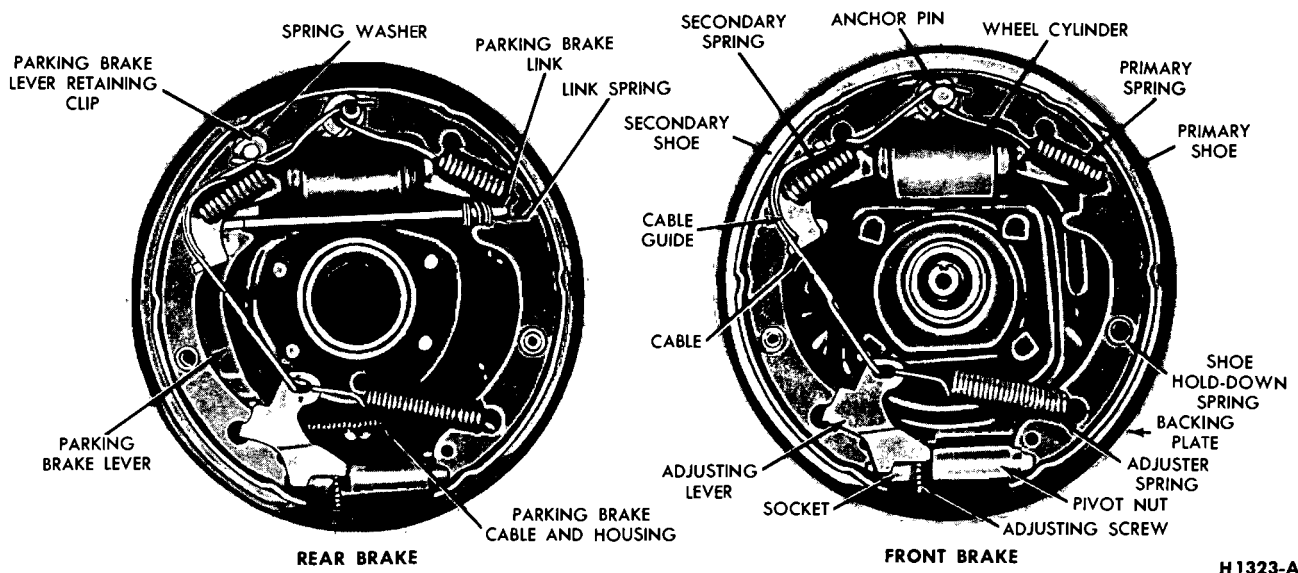

FIG. 9—Self-Adjusting Brake Assemblies—9 Inch Drum
The self-adjusting brake mechanism consists of a cable, cable guide, adjusting lever, and adjuster spring (Figs. 9 and 10). The cable is hooked over the anchor pin at the top and is connected to the lever at the bottom. The cable is connected to the secondary brake shoe by means of the
An independent hand-operated parking brake control actuates the rear wheel brake shoes through a cable linkage. The operating cable is routed from the parking brake control assembly to the equalizer pivot lever which is attached to the equalizer assembly to the floor pan. The rear brake cables connect the equalizer assembly to the parking brake lever at each rear secondary shoe as shown in Figs. 9, 10 and 31.
An independent foot-operated parking brake control actuates the rear wheel brake shoes through a cable linkage. The operating cable is routed from the parking brake control assembly to the equalizer. The rear brake cables connect the equalizer assembly to the parking brake lever at each rear secondary shoe (Fig. 9).
6. After removing the rear brake shoes disassemble the parking brake lever from the secondary shoe by removing the retaining clip and spring washer (Figs. 9 and 10).
3. Position the brake shoes on the backing plate and secure them with the hold down springs. On the rear brake, install the parking brake link and spring. Connect the parking brake cable to the parking brake lever (Figs. 9 and 10).
Install the cable guide on the secondary shoe web with the flanged hole properly fitted into the hole in the secondary shoe web. Install the secondary spring (secondary shoe to anchor spring) (Figs. 9 and 10).
10. Position the hooked end of the adjuster spring completely into the large hole in the primary shoe web. The last coil of the spring should be at the edge of the hole. Connect the loop end of the spring to the adjuster lever hole (Figs. 9 and 10).